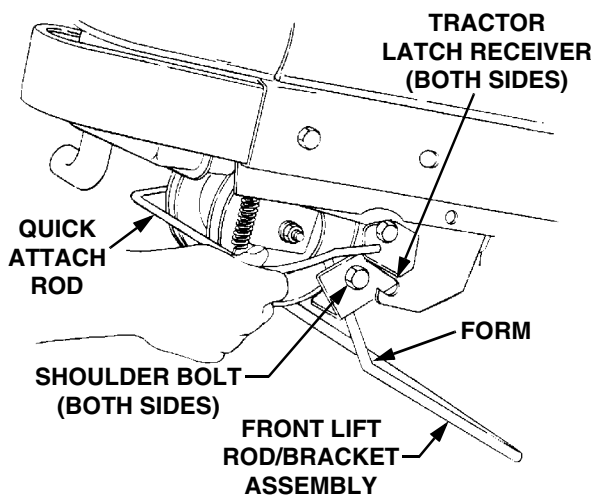

Figure 31
- Refer to Figure 31 to ensure the correct orientation of the front lift rod/bracket assembly [the form (bend) in sides of rod point downward]. From the front of the tractor, push downward and hold the tractor quick-attach rod. Slide the shoulder bolts on each side of the front lift rod/bracket assembly fully into the left and right tractor latch receivers.